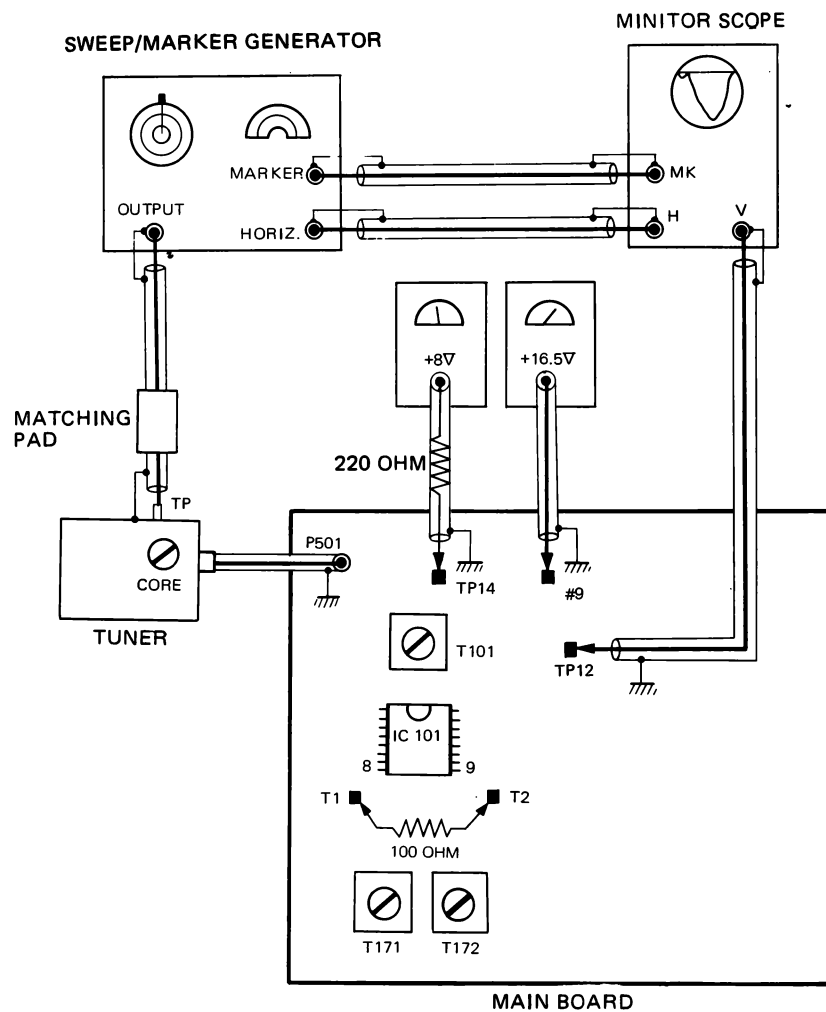

Figure 26. Overall Response Alignment
- GENERAL** Refer to figures 26 and 27 for test equipment connection and alignment point.